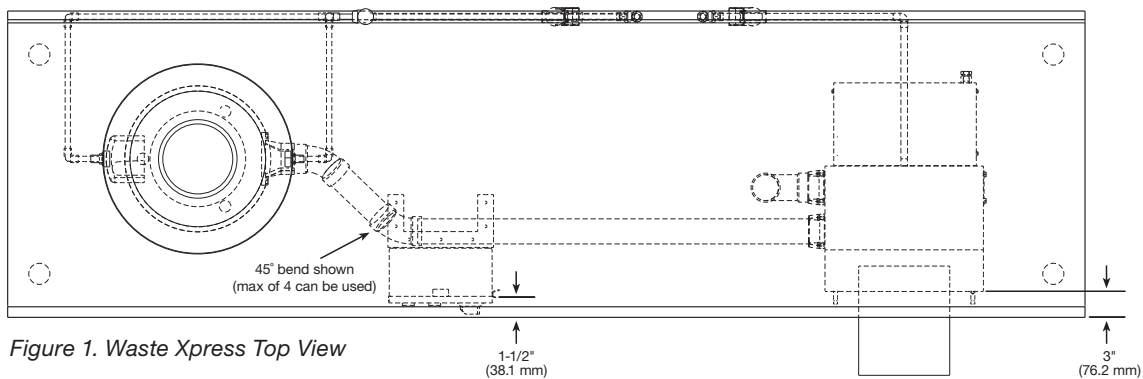
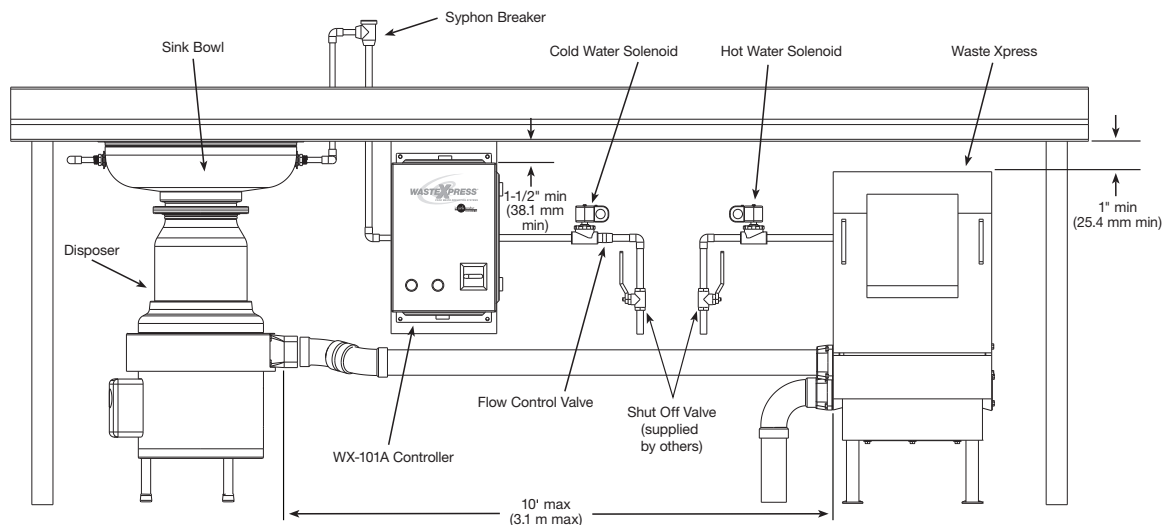

Figure 1. Waste Xpress Top View
Figure 2. Waste Xpress Typical Installation
- Position the pulper so that the front surface of the discharge chute is recessed 3" (76.2 mm) (see Figure 1) from the front edge of the table and that a minimum clearance of 1" (25.4 mm) exists between the underside of the table and top of the discharge chute (see Figure 2) for proper removal of discharge chute, ease of cleaning and general maintenance.
- Position the pulper so that it is within 10' (3.1 m) of the disposer outlet flange. (See Figure 2)